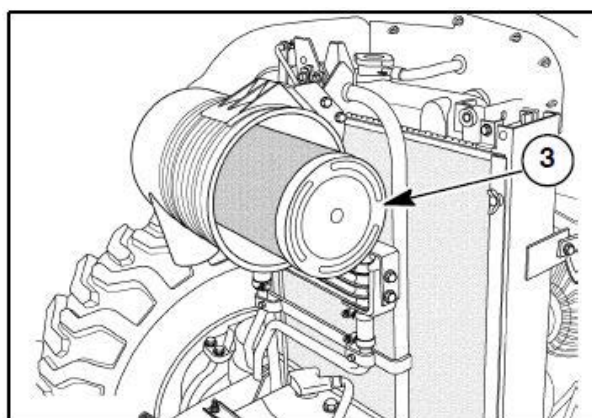

Figure 3-13
Remove the end cap from the air cleaner body to expose the primary element (3) in Figure 3-13.